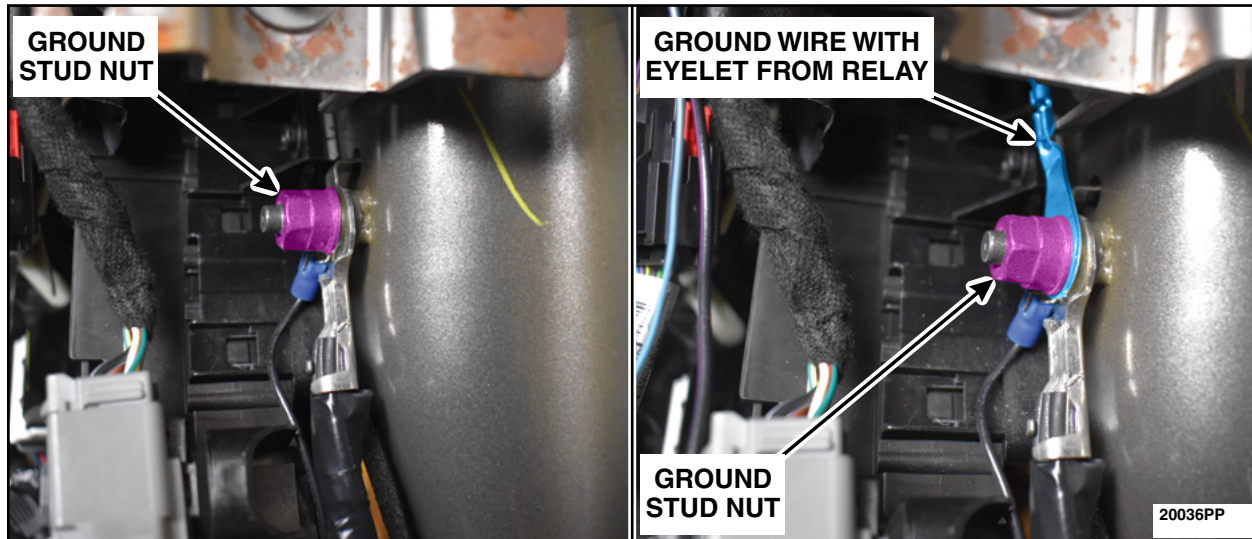

FIGURE 43
61. Remove the ground nut, install the ground wire with the eyelet from the relay on to the ground stud. Reinstall the ground stud nut. See Figure 43.